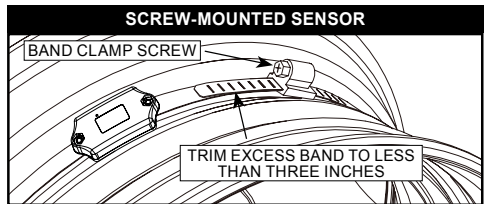

Figure 2: Screw-mounted Internal sensor final install
4. Put the sensor and sensor band in the **center position** (sometimes known as the “well”) of the wheel hub. See *Figure 2*.
5. Tighten the band clamp on the wheel hub. Ensure sensor does not move laterally or rotate on wheel hub. See Figures 2, 4 and 5.
1) On **SCREW-MOUNTED SENSOR**, trim excess band. Do not let the trimmed end of the band protrude away from the wheel. See Figure 2.